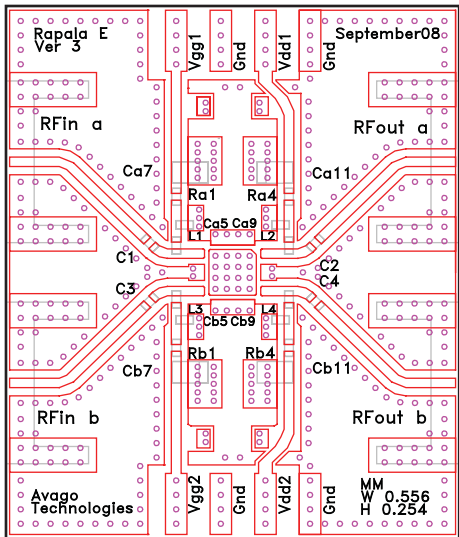

Figure 5. Demo Board Layout Diagram
RF performance at TA = 25°C, Vdd 5V, Idd = 50mA, 850MHz and 900MHz given for each RF channel, measured on demo board in Figure 5 with component list in Table1 for 850 MHz matching.
7. Measurements at 850 MHz and 900 MHz are obtained using demo board described in Figure 5.
RF performance at  $T_A = 25^\circ\text{C}$ ,  $V_{dd} = 5\text{V}$ ,  $I_{dd} = 50\text{mA}$ , given for each RF channel, measured on demo board in Figure 5 with component list in Table 1 for 850 MHz matching. IIP3 is measured with input power of  $-15\text{dBm}$  per tone.
RF performance at  $T_A = 25^\circ\text{C}$ ,  $V_{dd} = 5\text{V}$ ,  $I_{dd} = 50\text{mA}$ , given for each RF channel, measured on demo board in Figure 5 with component list in Table 1 for 850 MHz matching.